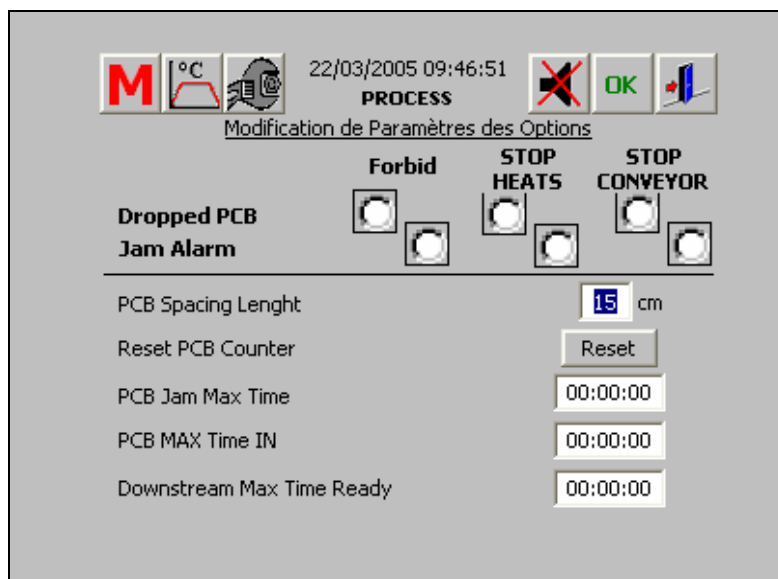

Figure 6-41 Options Parameters Modification Screen
2. The Options Parameters Modification screen appears (Figure 6-41). Options can be adjusted on this screen.